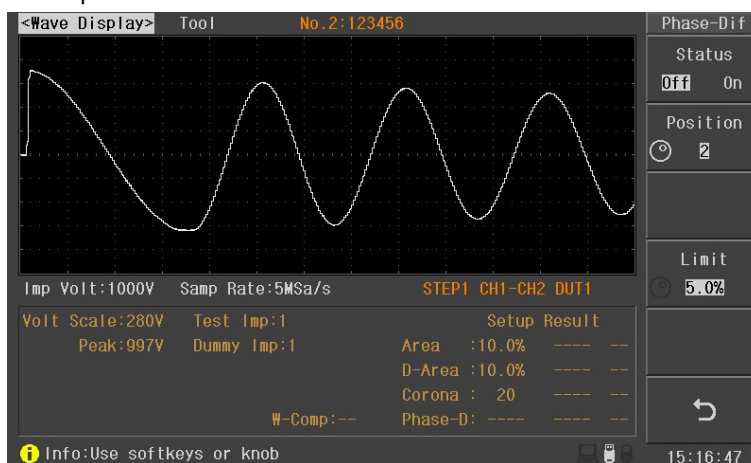

Figure 4-1-3-8 Phase-Dif setup interface
Wave-Comp: this test item can detect whether there is difference between the test waveform and standard waveform in order to strengthen the detection ability of IW (Surge). Move the cursor to Wave-Comp zone and use Status to set the Wave-Comp to ON or OFF. When the Wave-Comp is set as ON, the check symbol will be displayed in the left side of T dif and V dif. Use the numeric key to input the difference. Or press Comparator key to enter into the comparator setup interface (figure 4-1-3-4, standard sampling must be made) and then press Wave-Comp to enter into the Wave-Comp setup menu (figure 4-1-3-9), set the Wave-Comp ON/OFF, start point, end point and T dif and V dif through soft key 1-4. After setting, start a test to observe whether the waveform